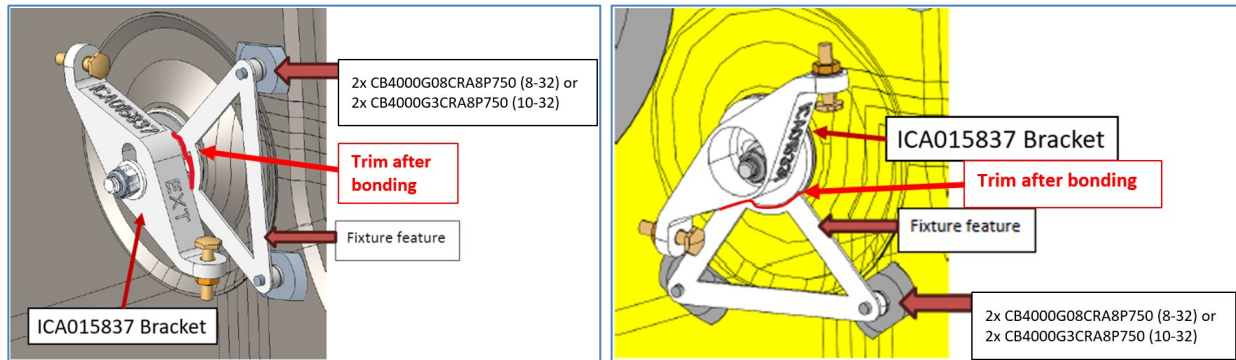

Figure 9. NLG limit switch bracket assembly installed; (1.0 configuration: orient as shown on right)
13. With rig pin still installed, or using ITL001714-B if no rig pin hole is available, bond CLICKBOND studs (CB4000G08CRA8P750 or CB4000G3CRA8P750) in the place oriented by the fixture (Reference **Figure 9**). Bond using CB200 in accordance with manufacturer recommendations. Backfill as needed with CB200 where stud overhangs core.
14. After allowing to adequately cure, use a razor knife to carefully trim away the fixture close to the base as shown in red line in **Figure 9**.